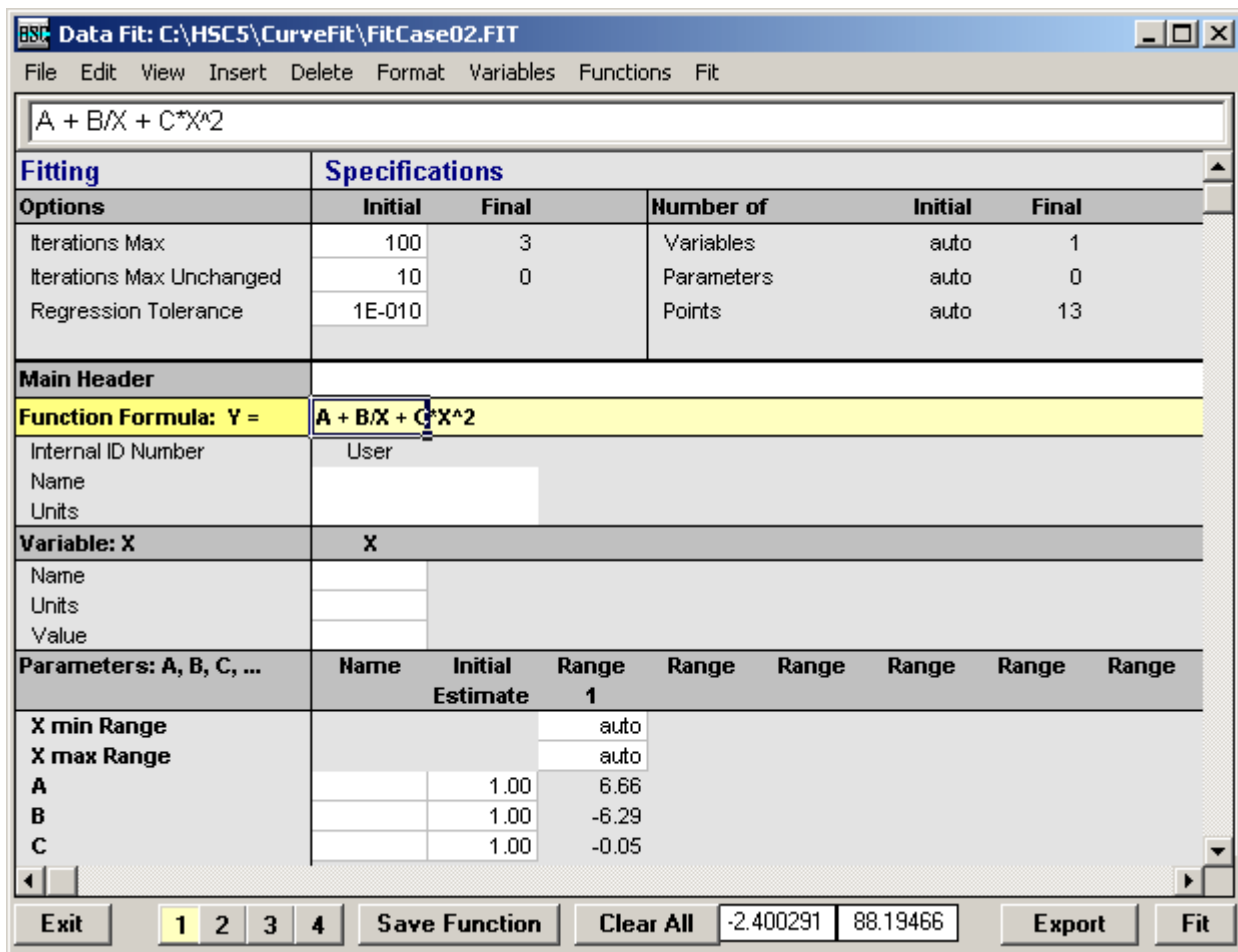

Fig. 3. The user may type a new function after pressing **Clear All**.
Press **Clear All**, Fig. 3.
Specify the number of variables using the "**Variable, ...**" menu selection, Fig. 3. If one variable is selected then the "X" character must be used in the function, but if more variables are selected then the X1, X2, X3, etc. names must be used. You may use either upper or lower case characters (X or x).
4. Function Specification (Yellow background cell in Fig. 3)
Usually no other specification information is needed apart from the function formula because this is created automatically, Fig. 3. However, sometimes the *initial estimate* is needed for the parameters. The default initial estimate is always 1. The user may specify all the information given in cells with a white background to describe the case in more detail. Please do not edit the other cells.
This specification will make it possible to divide the X-number scale into ranges. Parameters will be fitted separately for each range. However, this property is not available in Data Fit version 1.0. It is only included to make the file format compatible with future versions, Fig. 3.
- Edit the initial estimates in Fig. 3.